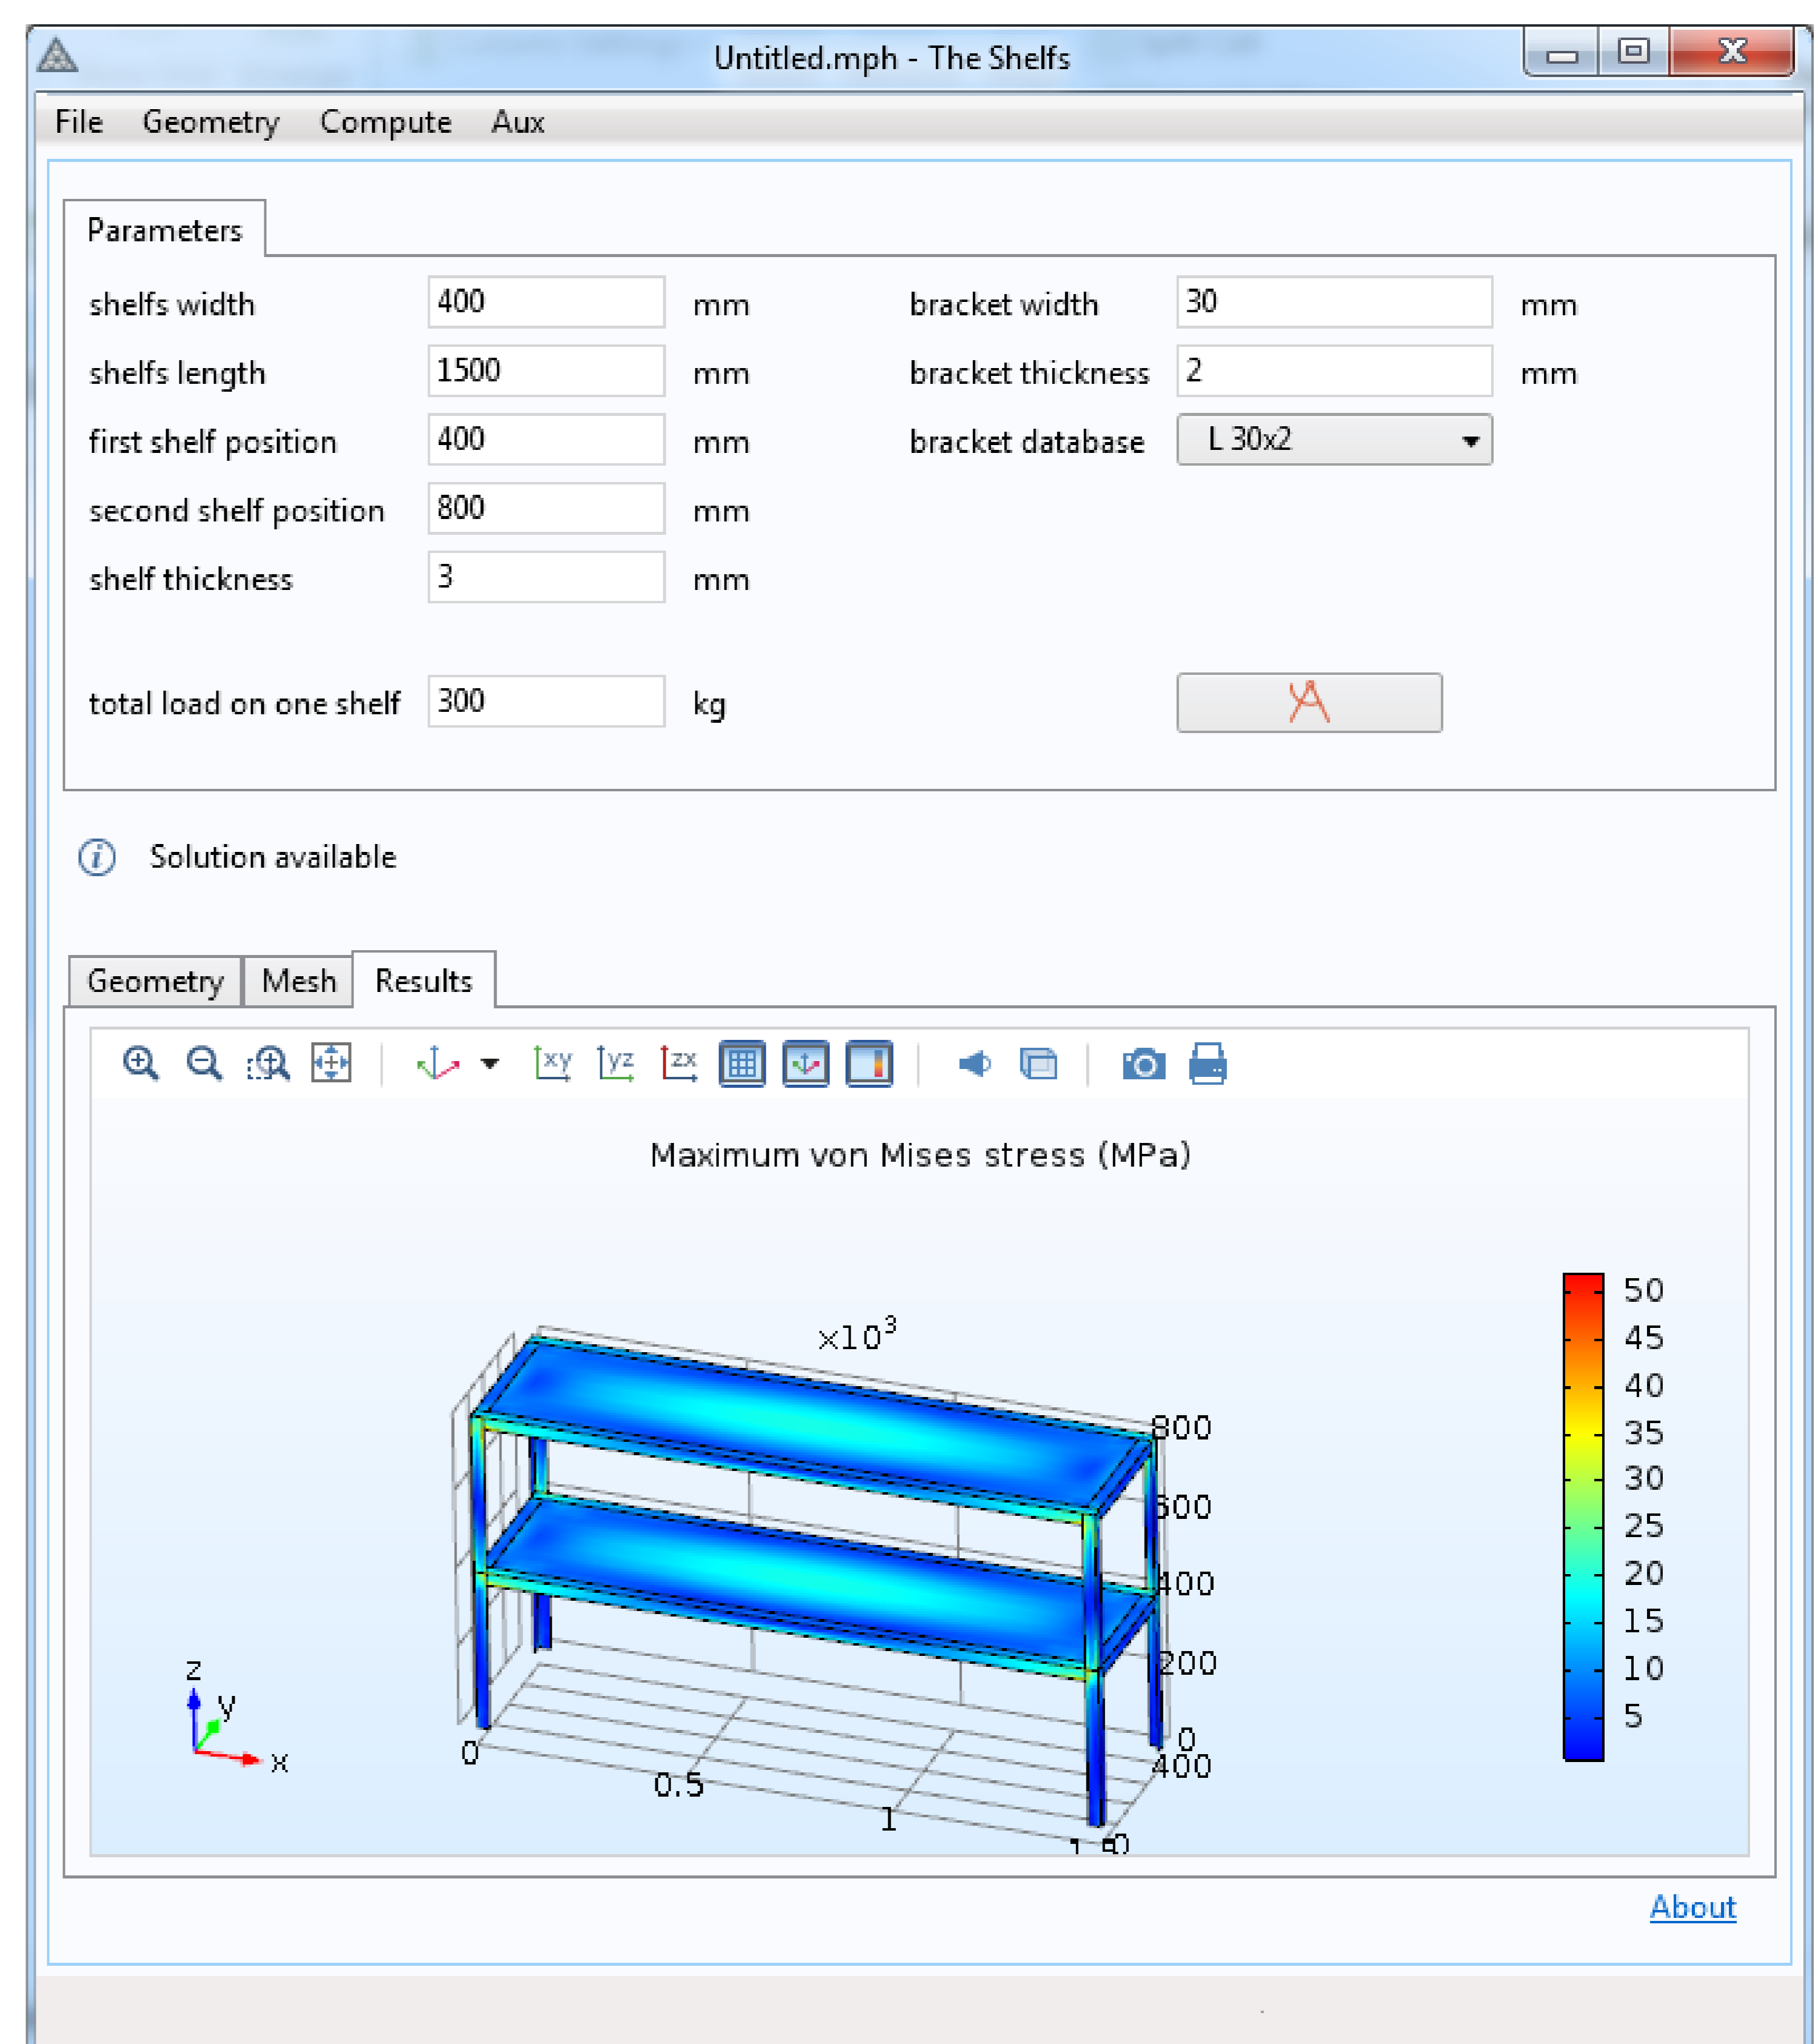

Figure 2. The equivalent stress map
**Results:** The application provides a simple user interface and allows parametric design of shelves. The equivalent stress distribution can be obtained and visualized within the application. The example results are shown in Figure 2.